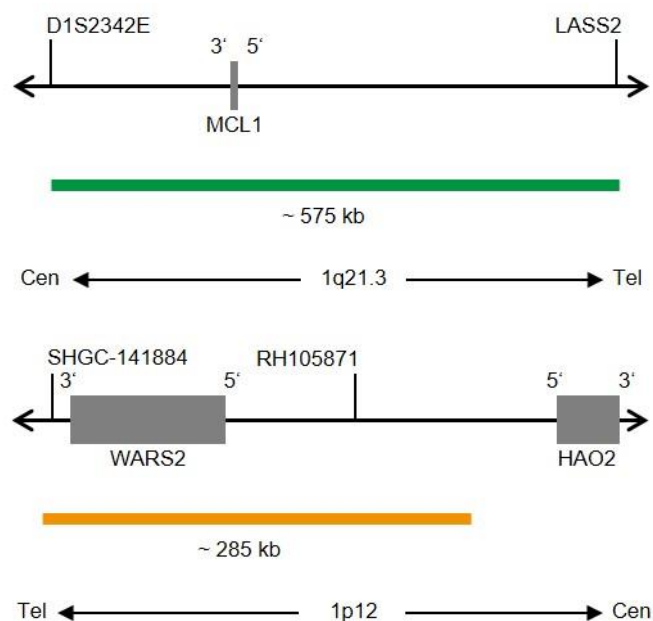

Fig. 1: Top: SPEC MCL1 Probe map, Bottom: SPEC 1p12 Probe map (not to scale)
- ZyGreen (excitation 503 nm/emission 528 nm) labeled polynucleotides (~10 ng/μl), which target sequences mapping in 1q21.3* (chr1:150,363,209-150,940,432) harboring the MCL1 gene region (see Fig. 1).
- ZyOrange (excitation 547 nm/emission 572 nm) labeled polynucleotides (~4.5 ng/μl), which target sequences mapping in 1p12* (chr1:119,537,102-119,823,147) (see Fig. 1).